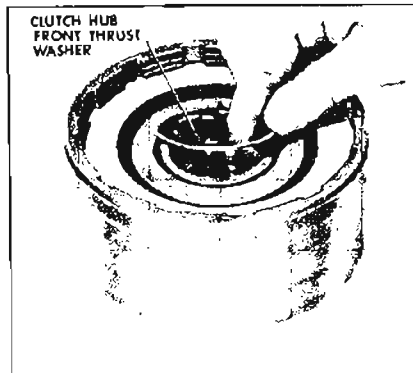

Figure 5-213
5. Remove clutch hub front thrust washer. See Figure 5-213.